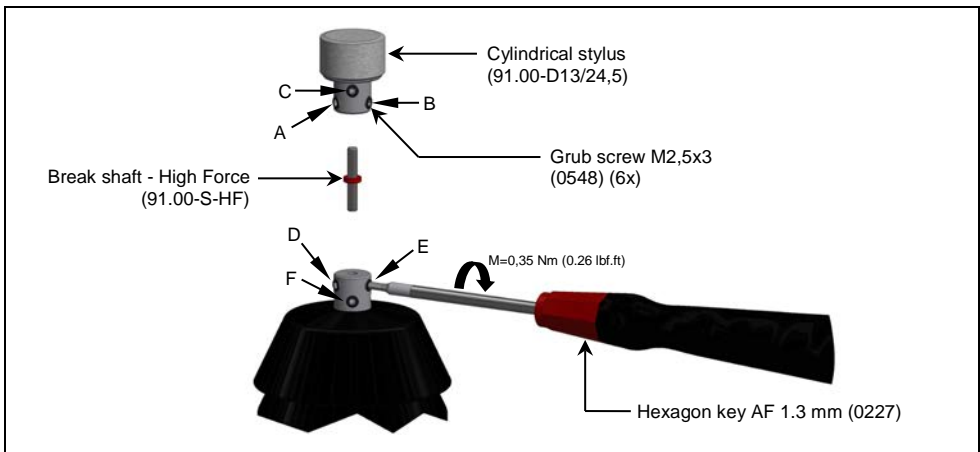

Fig. 14 Stylus Change
1. Loosen the grub screws D, E and F (refer to Fig. 14) and remove the cylindrical stylus together with the break shaft from the break shaft adapter.
2. Loosen the grub screws A, B and C of the cylindrical stylus (refer to Fig. 14) and remove the break shaft.